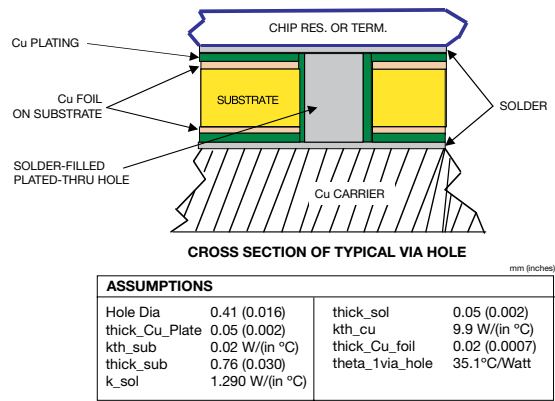

Figure 2: Via-hole cross section and parameters
**Via holes:** See Figure 2. **Structure** – plated through with 2-mil copper, filled with Sn62, Sn63 or Sn96 solder; **Diameter = 16 mils; edge-to-edge spacing = 0.5 x diameter = 8 mils**; Notes – The minimum via hole diameter is gener-ally a function of board thickness and is related to “walking” or breaking of the drill bit. The maximum via-hole diameter relates to the ability to wick up solder to the via’s full length. Different PC board fabricators will have different design rules that apply.
The calculated thermal resistance of each via, with the assumptions in **Figure 2**, is 35°C/Watt. **Table 1** and **Table 2** below present calculated performance parameters of AVX's standard via patches for various sizes of RP9-style SMT chip terminations and RP4-style SMT chip resistors.